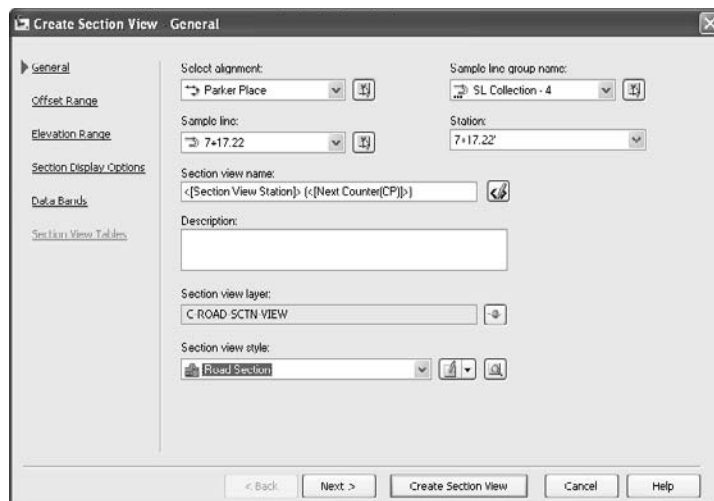

Figure A.93
3. Use the Sample Line pull-down list to choose station 7+17.22. Note that this sample line may be at the top of the list instead of in station order. The dialog will look like Figure A.93. Click Next three times.